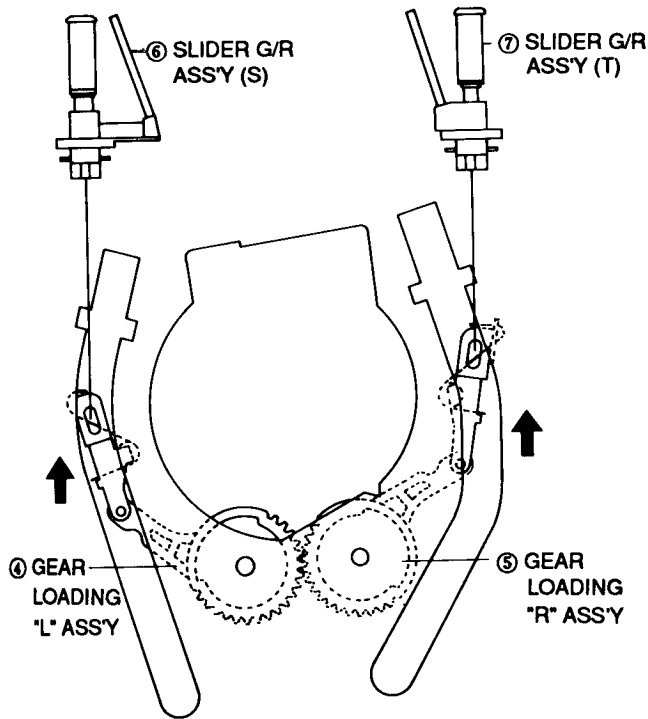

Fig. 67 Assembly of Slide Guide Roller "S", "T" Ass'y
- 4) Install the slide guide roller S, T ⑥, ⑦ into rail slot and then move it to the position of gear loading L, R ass'y ④, ⑤. (Refer to Fig. 67)
- 5) Turn the gear master ② toward arrow "A". (Eject mode)